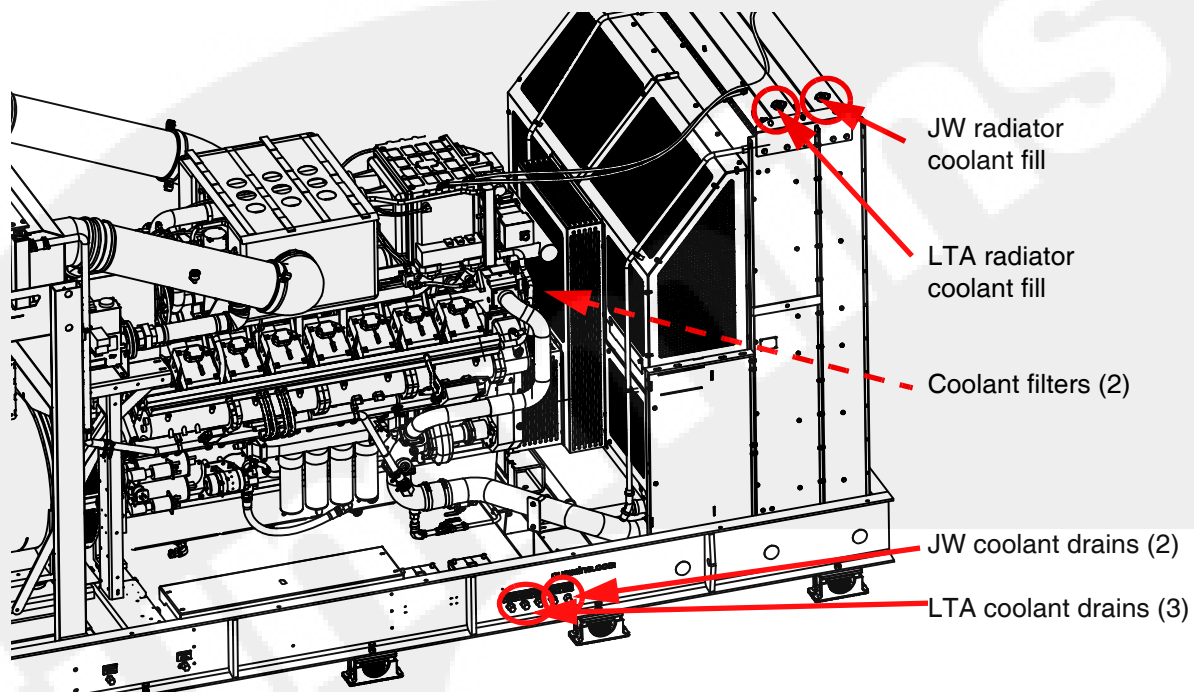

Figure 7-7 GenSet JW and LTA radiator cooling components (GenSet right side)
The C1000N6B and the C1300N6 relies on a radiator cooling system and may be optionally equipped with an intake air warming system that also requires coolant. Figure 7-7 shows the Jacket Water (JW) radiator and the Low Temperature Aftercooler (LTA) radiator cooling system components of the GenSet.